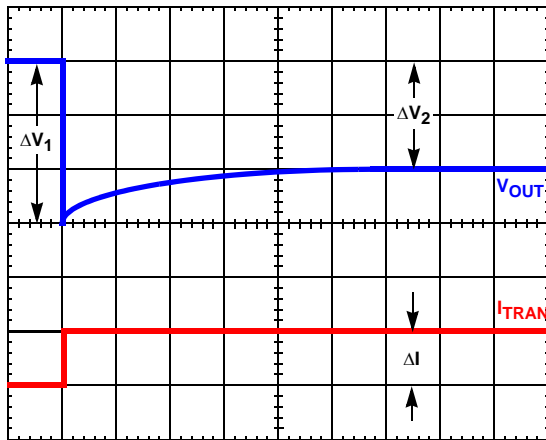

FIGURE 19. TIME CONSTANT MISMATCH BEHAVIOR
Due to errors in the inductance or DCR it may be necessary to adjust the value of R_1 to match the time constants correctly. The effects of time constant mismatch can be seen in the form of droop overshoot or undershoot during the initial load transient spike, as shown in Figure 19. Follow the steps below to ensure the R-C and inductor L/DCR time constants are matched accurately.
2. Record ΔV_1 and ΔV_2 as shown in Figure 19.